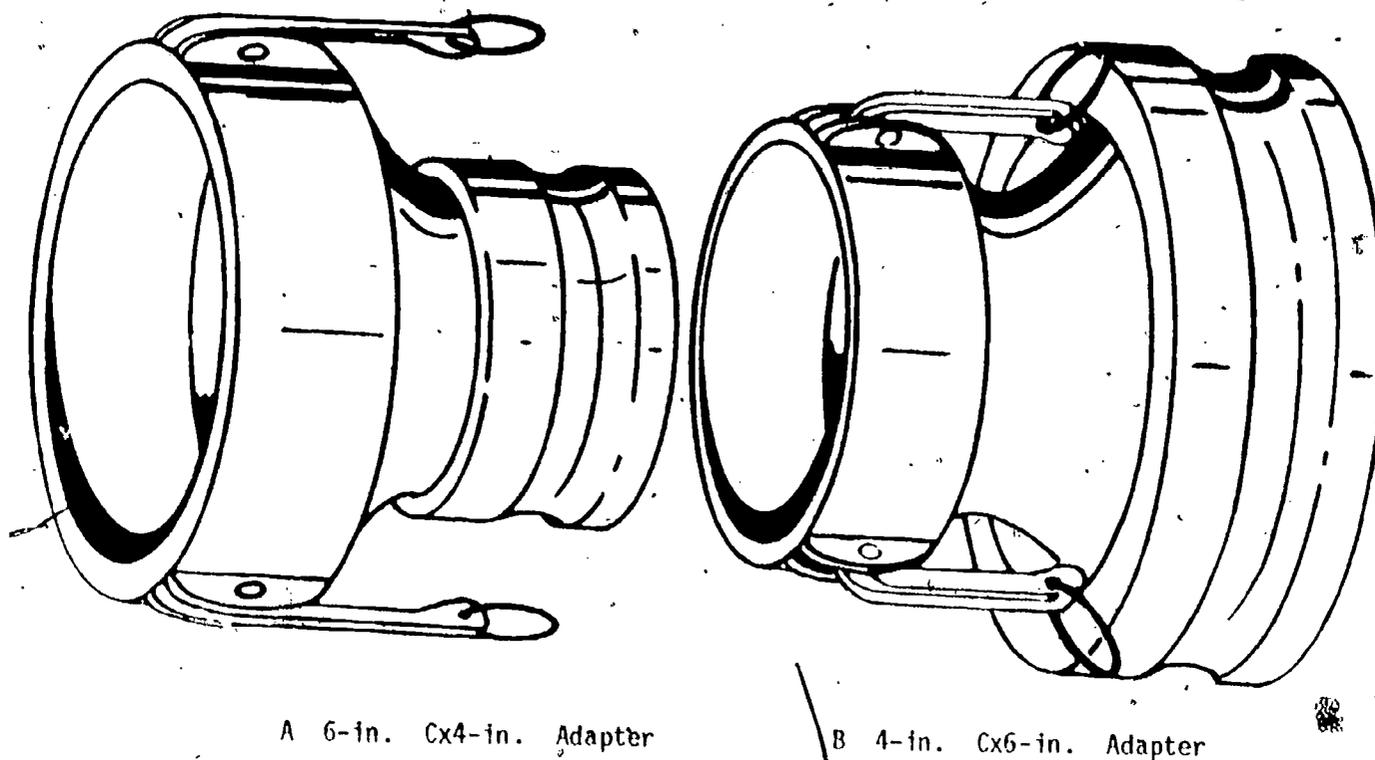

Fig 1-29. Reducer assemblies.
d. Reducer assemblies (fig 1-29). For convenience in interconnecting the 6-inch and 4-inch segments of the AFS, the high-capacity system has four 6-inch Cx4-inch A reducer assemblies (A) and one 4-inch Cx6-inch A reducer assembly (B).